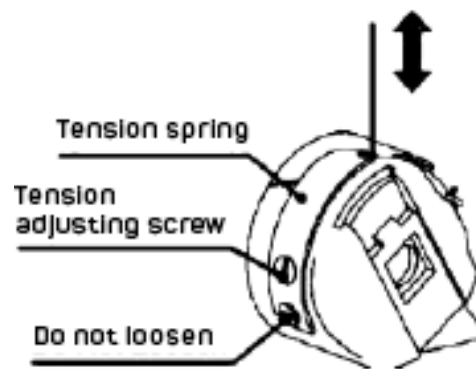

Figure 94
- To adjust the bobbin, there is a bobbin tension adjusting screw on the bobbin case. See Figure 94.